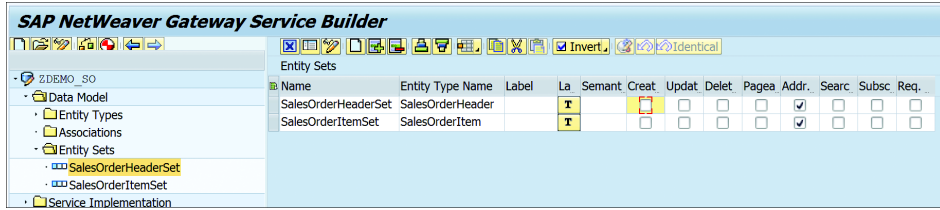

Figure 19.110 Entity Sets Folder Contents
- Expand the ENTITY SETS folder to see the entity sets you just created. For each entity, you can select the CRUD operations that can be performed, as shown in Figure 19.110